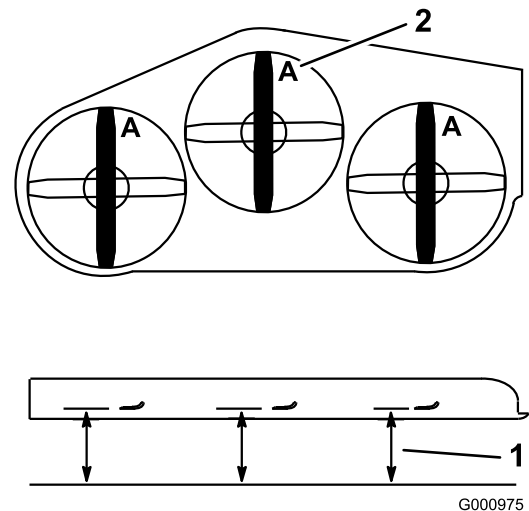

Figure 86
2. Measure from a level surface to the cutting edge, position **A**, of the blades (Figure 86).